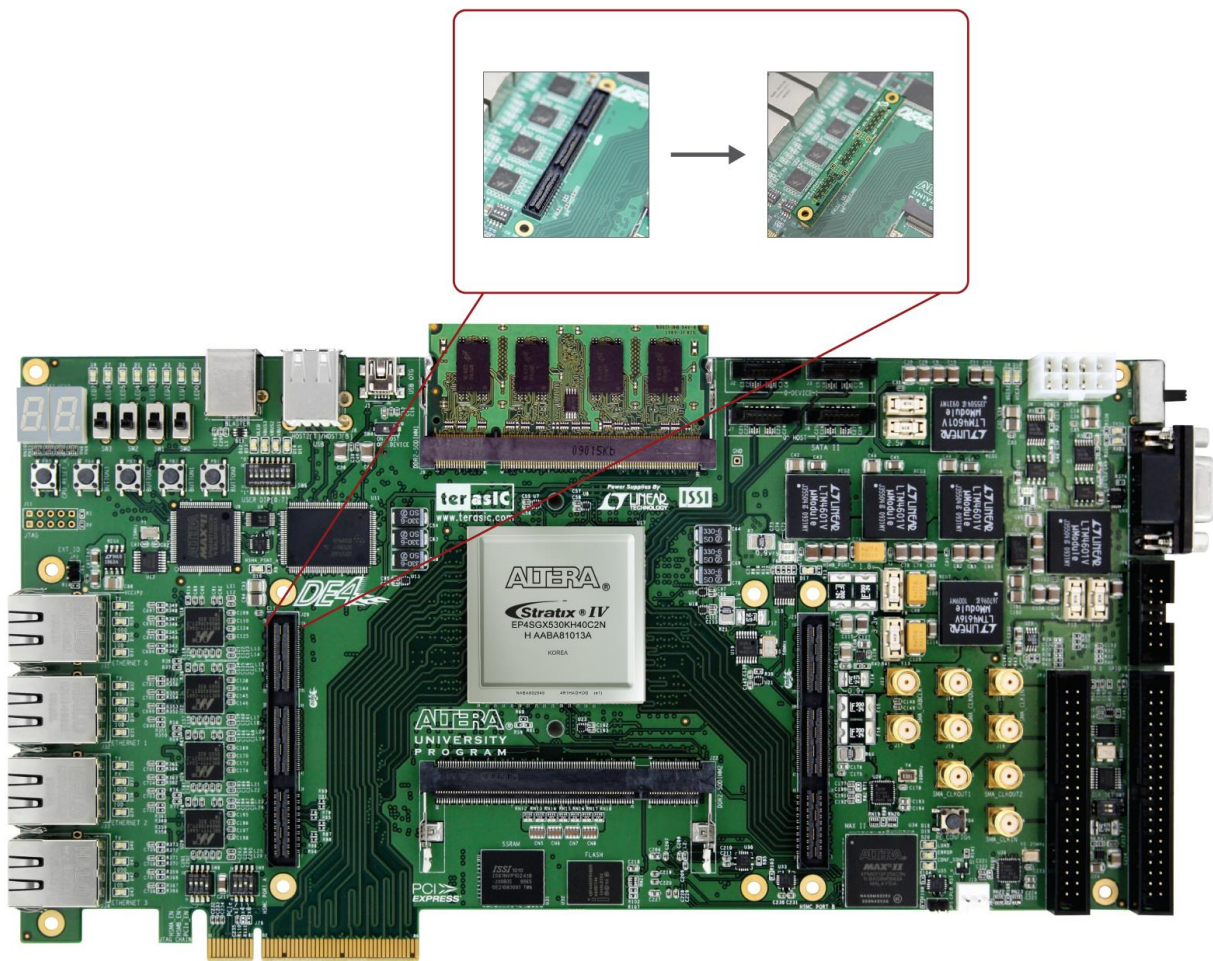

Figure 5–41 HSMC port A loopback design setup
- Insert the HSMC loopback daughter card onto the HSMC port A as shown in Figure 5–41.